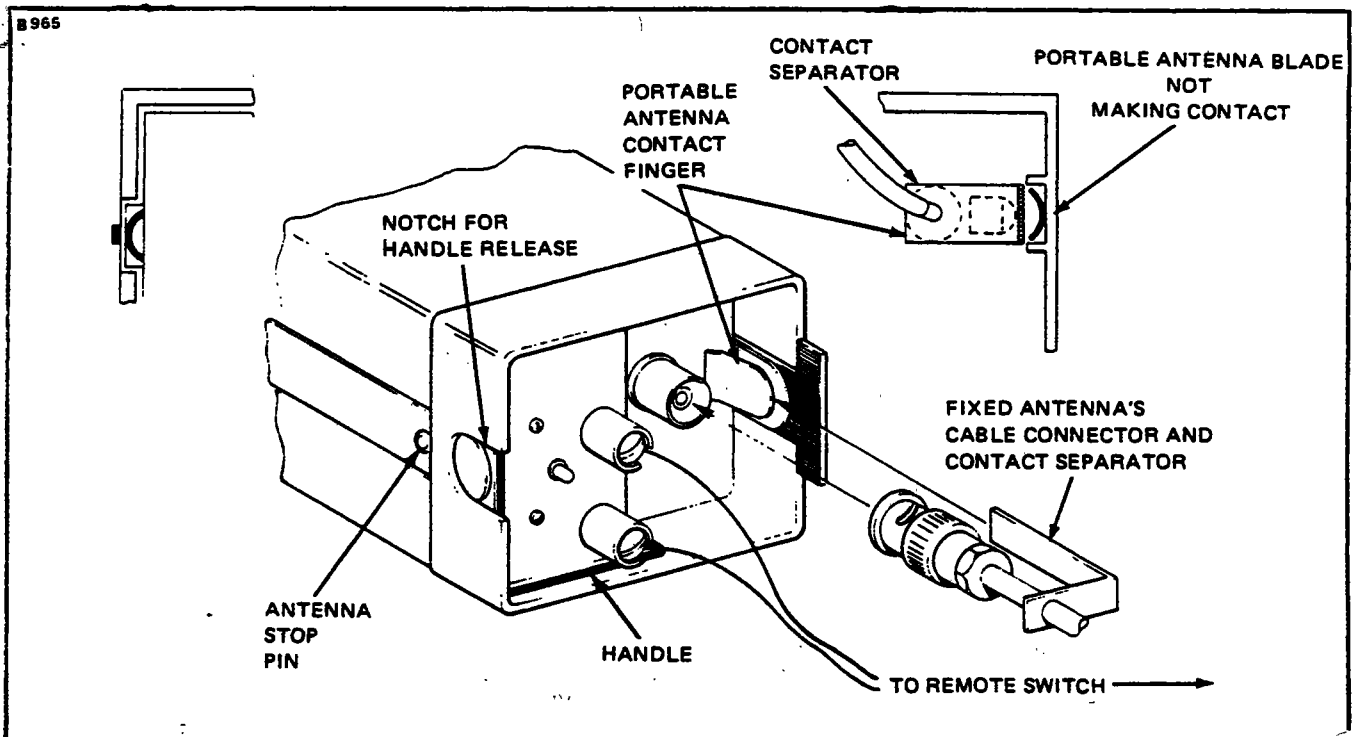

Figure 12-3. ELT Using Fixed Aircraft Antenna (Narco)
- l. Connect the antenna coaxial cable to the ELT and ensure that the contact separator is inserted between the antenna contact finger and portable antenna. (Refer to Figure 12-3).